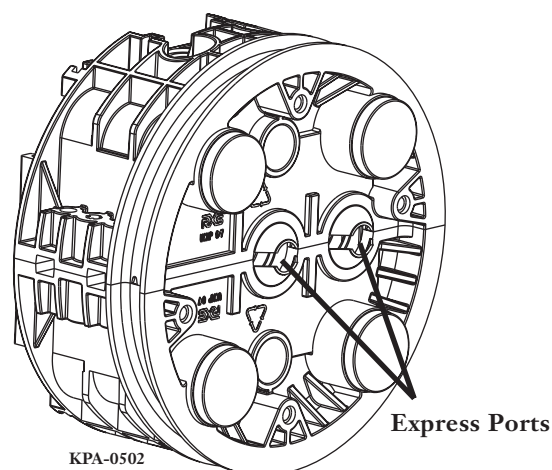

Figure 10 — Express Ports
**NOTE:** Use the two main cable ports in the center of the end cap first (Figure 10). Use the drop ports as needed.